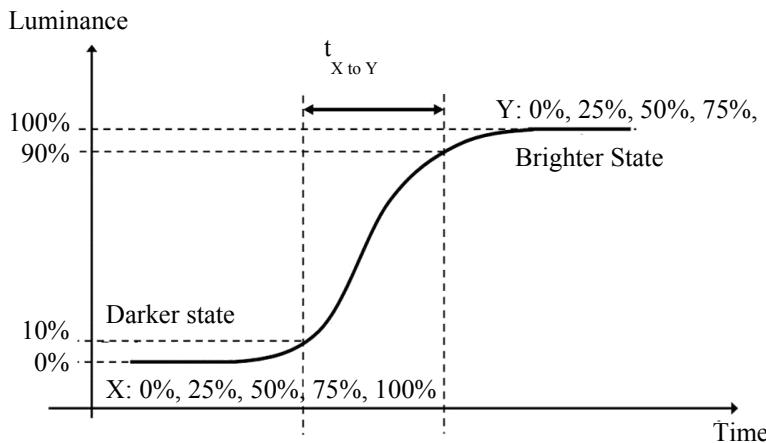

Fig. 6.4 The definition of $t_{X \rightarrow Y}$
- (3) Response time T_L is defined as the average transition time in the response time matrix. The table below is the response time matrix in which each element $t_{X \rightarrow Y}$ is the transition time from luminance ratio X to Y. X and Y are two different luminance ratios among 0%, 25%, 50%, 75%, and 100% luminance. The transition time $t_{X \rightarrow Y}$ is defined as the time taken from 10% to 90% of the luminance difference between X and Y ($X < Y$) as illustrated in Fig.6.4. When $X > Y$, the definition of $t_{X \rightarrow Y}$ is the time taken from 90% to 10% of the luminance difference between X and Y. The response time is optimized on refresh rate $F_r = 60\text{Hz}$.